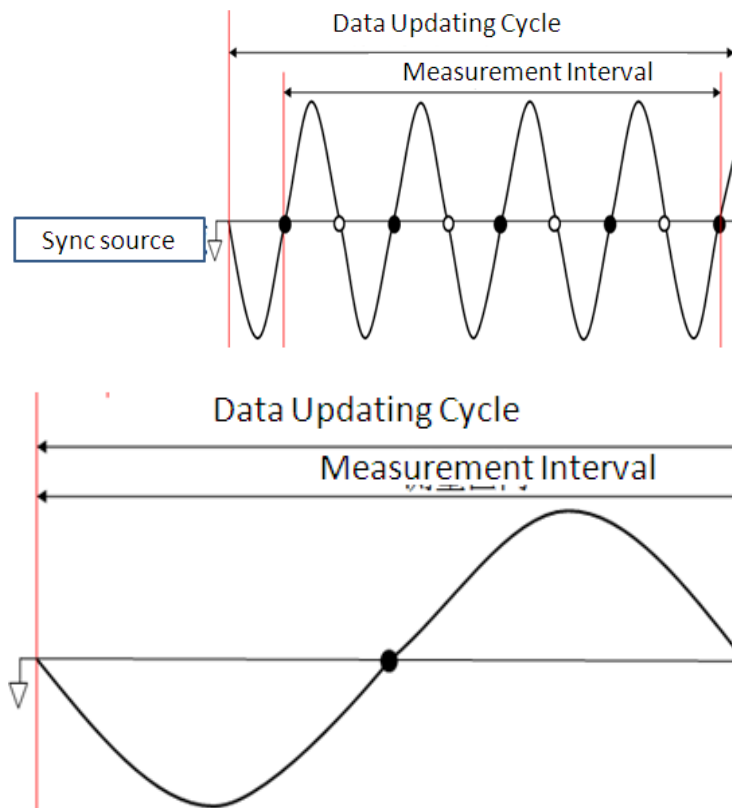

Figure 3.1 Measurement Timing
- Either positive, or negative going transitions of the synchronization source determine the measurement timing. If the zero crossings do not occur within the set update interval, the entire interval is used for calculating the various measurements. See Figure 3.1.